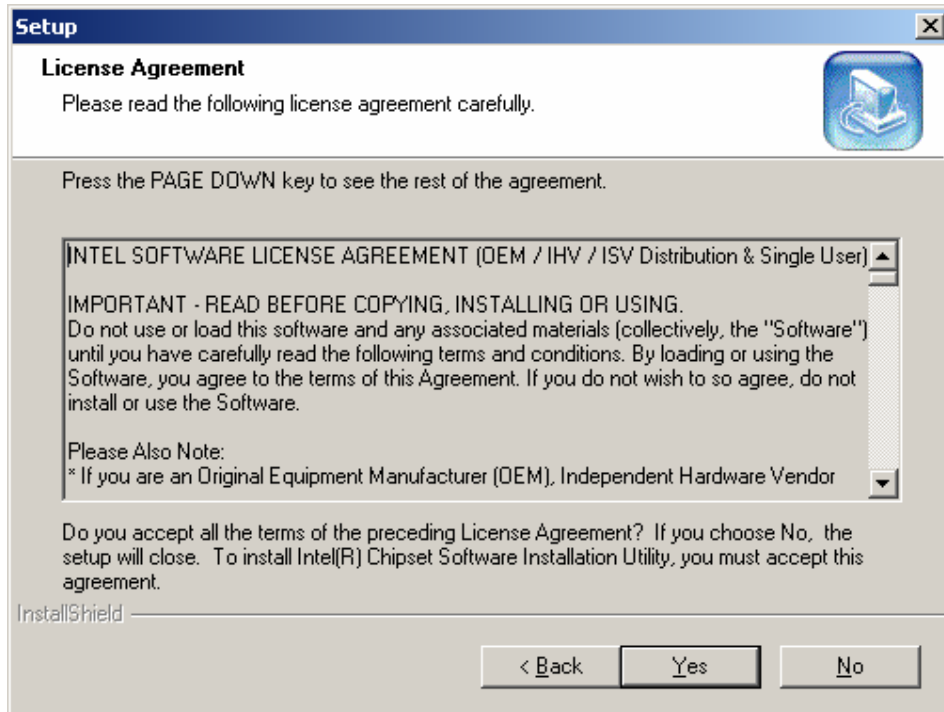

Figure 6-11: Chipset Software Installation Utility License Agreement
Step 4: Click NEXT and the license agreement appears (Figure 6-11).